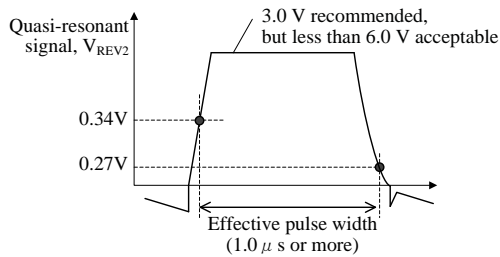

Figure 9-12 The effective pulse width of quasi-resonant signal
- The effective pulse width of quasi-resonant signal is  $1.0 \mu s$  or more (refer to Figure 9-12)
power supply specification,  $V_{REV2} < 6.0$  V (Absolute maximum rating of the BD pin) and the effective pulse width of quasi-resonant signal is 1.0  $\mu$ s or more (refer to Figure 9-12).